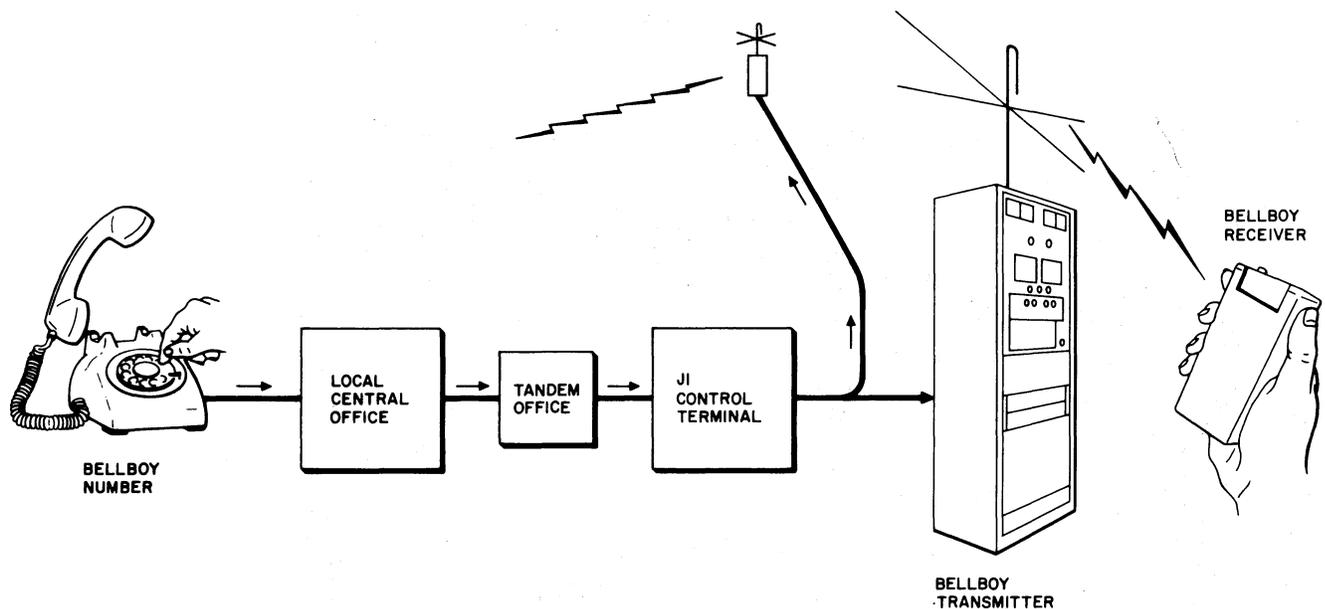

Fig. 1—BELLBOY Call Routing
1.09 A person wishing to contact a BELLBOY subscriber located somewhere within the coverage area of the system dials a seven-digit number, for example, BB5-2348. The call is routed through the local office or the local and tandem office resulting in the last four digits being dial pulsed into the J1 control terminal (refer to Fig. 1). The control terminal receives, stores, and translates the four digits into coded signals in the form of three tones ranging from approximately 500 to 1000 Hz. These tone codes are then transmitted over wire-line facilities to modulate one or more radio transmitters which operate on 152.840 or